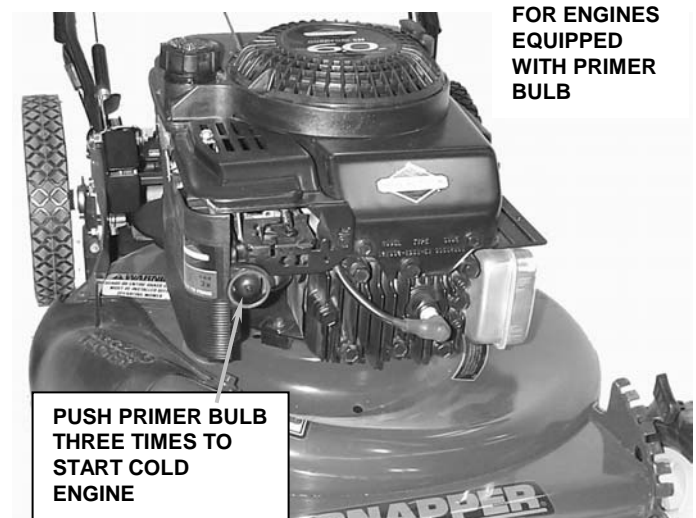

FIGURE 2.3
**1.** Push primer bulb three times to start a cold engine. **NOTE: The primer should not be required to restart a hot engine.** See Figure 2.3.